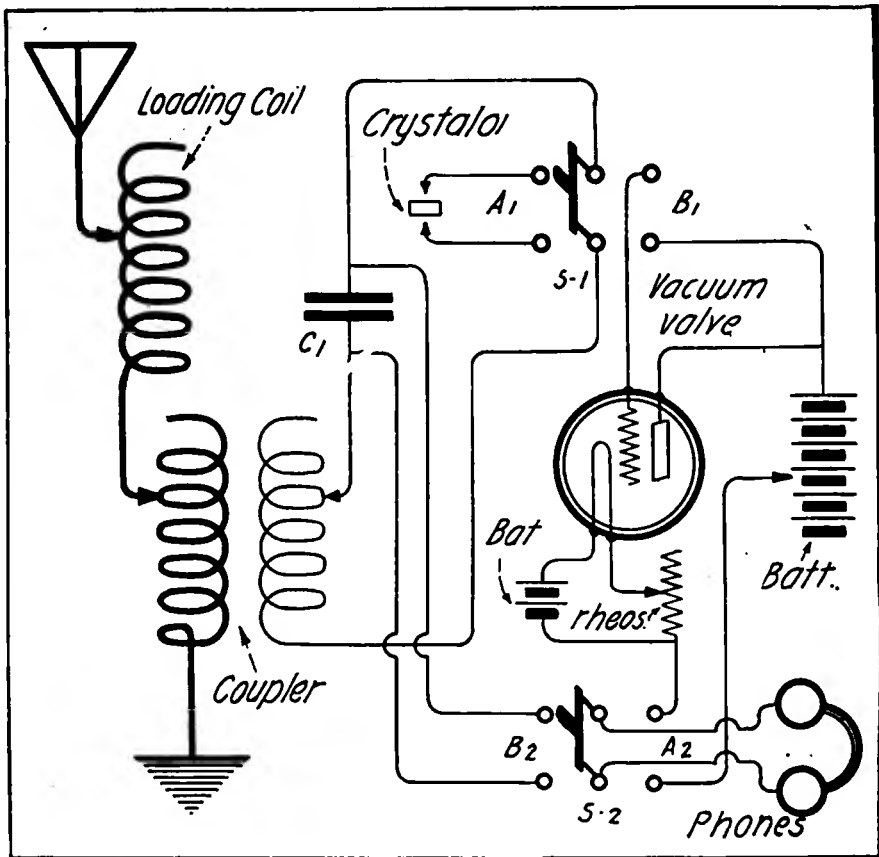

Figure 1
Ans.—(1) A complete diagram of connections for a regenerative circuit is shown in figure 1, also the connections and switch arrangements for the crystaloi detector. It will not be possible to make the necessary changes by a single, double-pole, double-throw switch because the telephones in the vacuum valve circuit are connected differently in the crystaloi circuit. The switching arrangements for changing from one detector to the other are shown at S-1 and S-2. When the switch, S-2, is thrown to the position, A-2, and the switch, S-1, to the position, B-1, the vacuum valve is connected ready for use, and if both switches are thrown in the opposite direction, the crystaloi detector will be connected in series with the secondary winding, and the telephones will be shunted around the grid condenser, B-1. The crystaloi detector requires a rather large value of capacity at C-1, and, therefore, you may obtain increased strength of signals by placing a small fixed condenser of .01 microfarad in shunt to the condenser, C-1, which usually is one of very small capacity for use with the valve. By slight re-arrangements of these connections, you can construct a four-blade, double-throw switch by means of which all the connections can be shifted simultaneously with one operating handle. For longer wave-lengths, increased strength of signals will be obtained with the regenerative circuit by placing a variable condenser in shunt to the battery and head telephone.